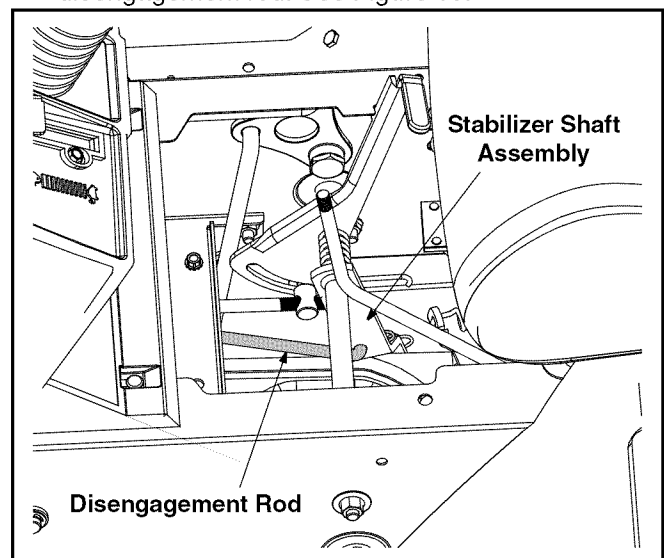

Figure 16
- Remove the shift cover panel and locate the deck disengagement rod. See Figure 16.